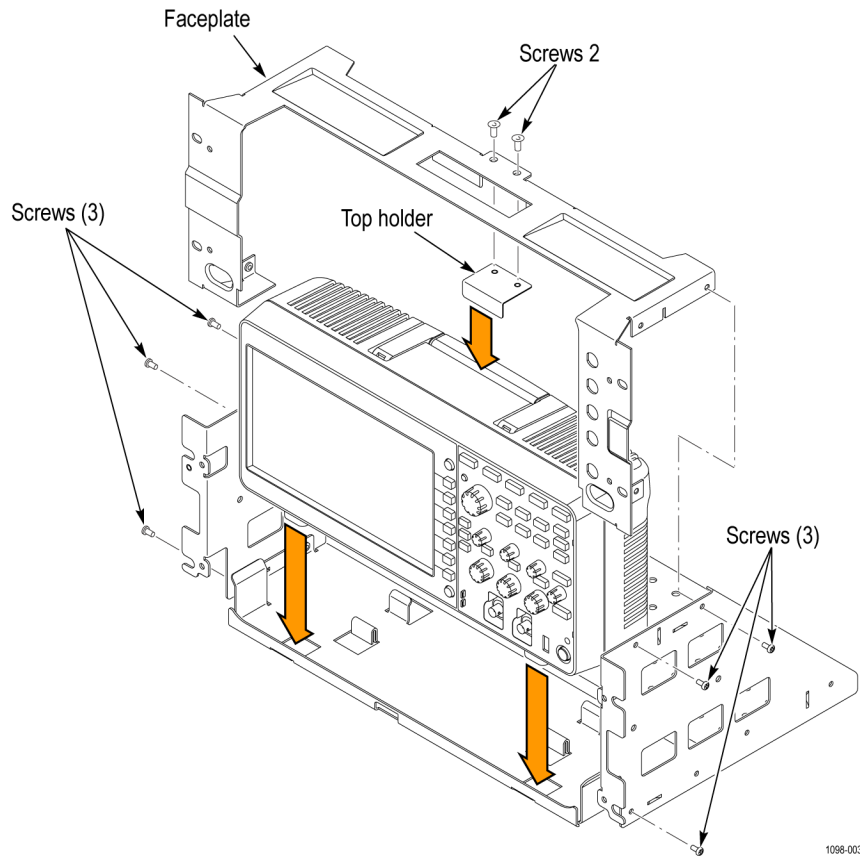

Figure 5: Installing the instrument in the enclosure
2. Place the oscilloscope into the rackmount frame. Position the oscilloscope's front feet and rear feet in the brackets. The front of the oscilloscope will extend slightly beyond the front of the rackmount frame. (See Figure 5.)
3. Install top holder into top bracket with two flat head screws (211-0538-00). (See Figure 5.)
4. Align the guides in the top bracket and the sides and then slide the bottom of the top bracket into position. (See Figure 5.)
5. Attach the top bracket with 6 of the pan head screws (211-1275-00). (See Figure 5.)